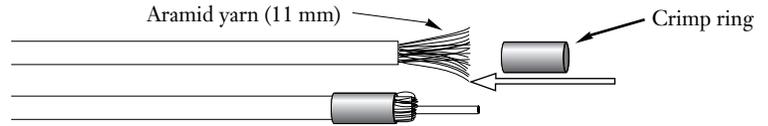

Figure 5-32
**5.6-10** Fold the aramid yarn back over the cable jacket and slide the crimp ring about 5 mm (0.2 in) down the yarn to hold it out of the way (Figure 5-32).